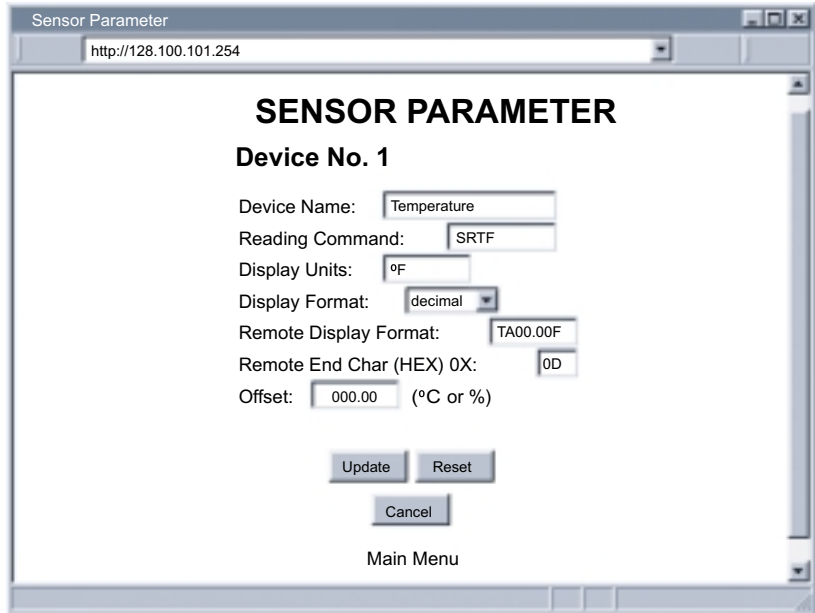

Figure 4.9 Sensor Parameter Menu
- In the first column of Configuration's Device Setup page, click on **1** to view and modify sensor parameters. See **Figure 4.9**.